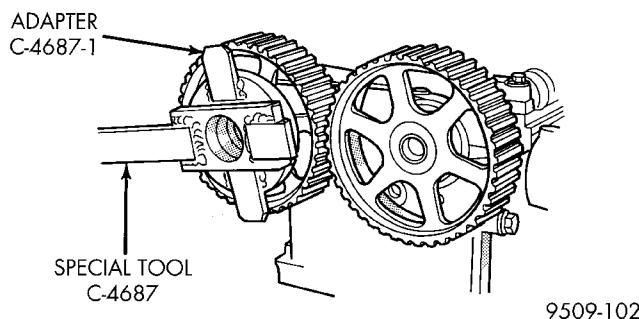

Fig. 53 Removing / Installing Camshaft Sprocket Bolt
(2) Hold camshaft sprocket with Special Tool C-4687 with adaptor C4687-1 while removing / installing bolts (Fig. 53).